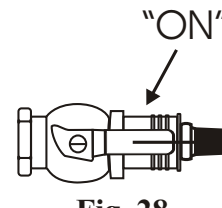

Fig. 28
4. Turn the handle ON to allow propane to flow to the BBQ grill. (Fig. 28)